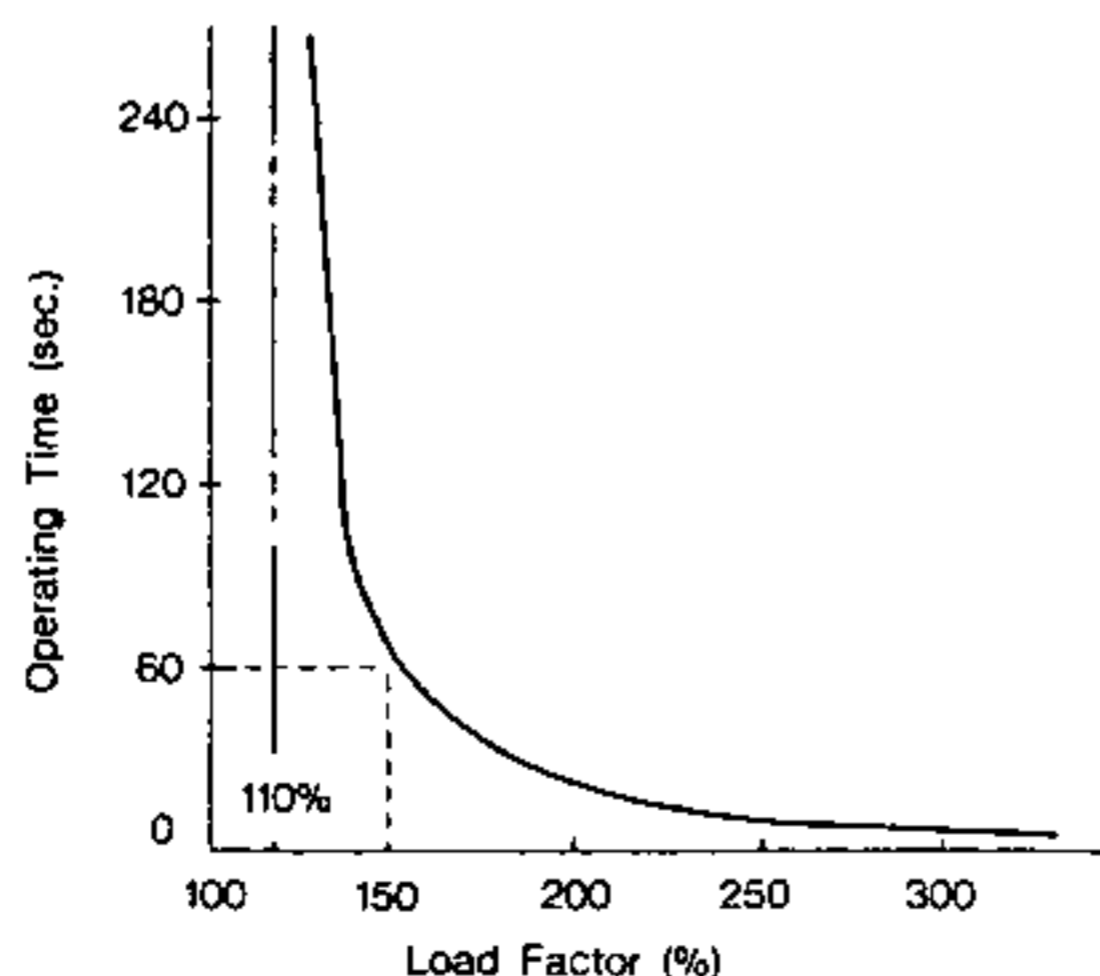

Figure 7 Characteristics of electronic thermal circuit
- (5) Do not put in a magnetic contactor between the SV PACK and SV motor. The load change due to the magnetic contactor may cause the device trouble.
- (6) The main circuit power supply and control circuit power supply can be simultaneously turned ON/OFF, but the sequence must be such that the main circuit power will not be turned on first.
- (7) Connect the auxiliary contact (contact a) of magnetic contactor MC in between terminals ST and N24. When the magnetic contactor has no auxiliary contact, use another auxiliary relay. Operation cannot be performed unless ST and N24 are connected.
- (8) The SV PACK has the electronic thermal circuit for overload protection. The SV motor has also the thermal protector (terminals P1 and P2). Connection should be made as shown in Figure 6 for overload protection. Figure 7 shows an example of the electronic thermal circuit characteristics. The protecting operation works in approximately 60 seconds at 150% overload.